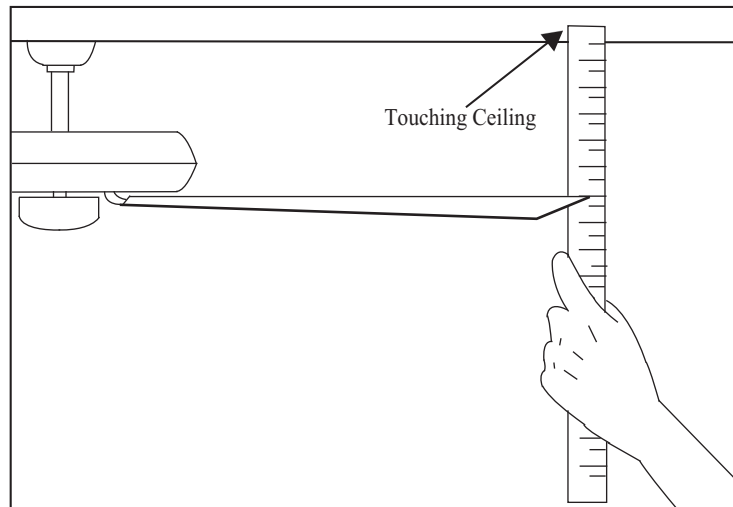

Figure 19
- Select a point on the ceiling above the tip of one of the blades, then select any fan blade and measure from the center of the selected blade to the point on the ceiling (as shown in Figure 19). Rotate the fan until the next blade is positioned and repeat the measurement using the same point from the ceiling for every blade. Measurement deviations should be within 1/8”.